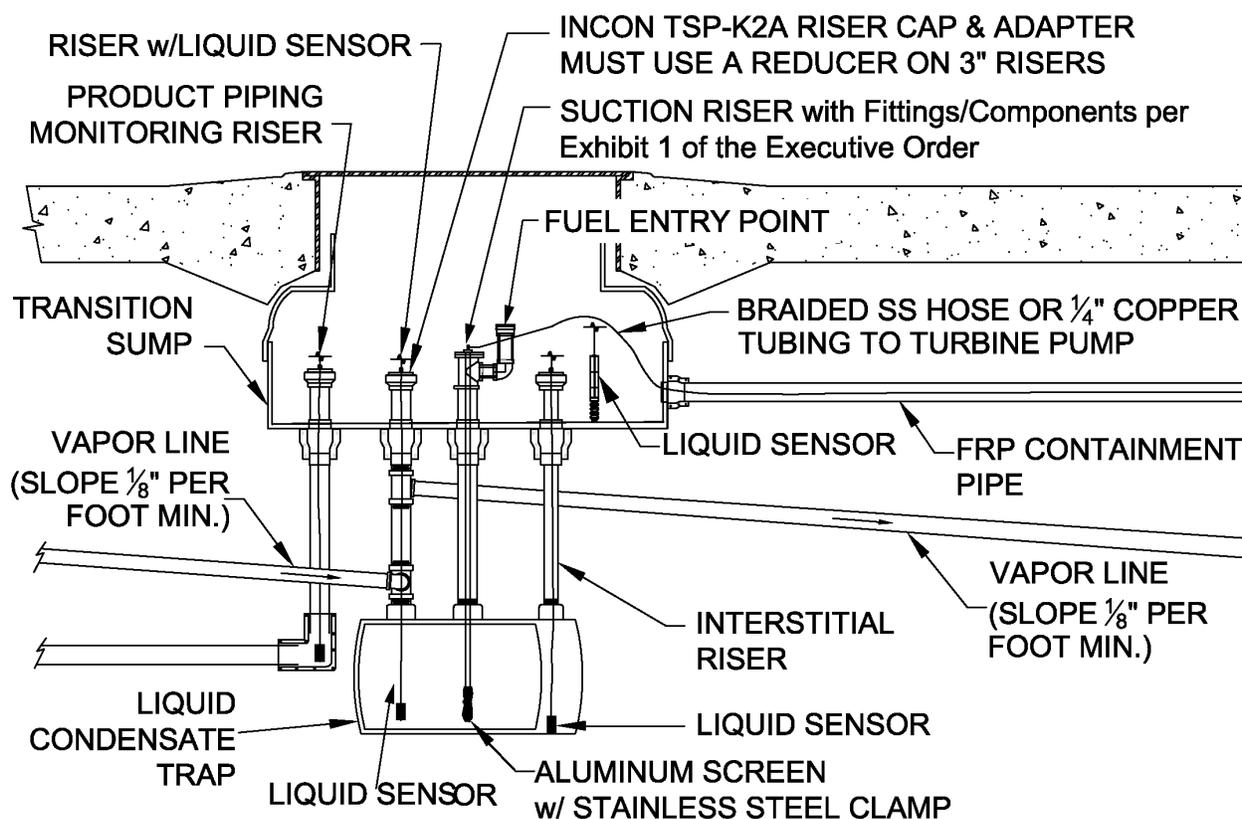

Figure 1
- 5.3. Record LCT capacity in Form 1. A metal tag specifying LCT capacity is installed above the Fuel Entry Point (See Figures 1 and 2). If LCT capacity tag is not installed, the LCT is not in compliance with Exhibit 2 specifications.
- 6.1. Remove plug or cap on Fuel Entry Point installed at the suction riser of the LCT. Add gasoline through the open Fuel Entry Point (see Figures 1, 2 and 3).